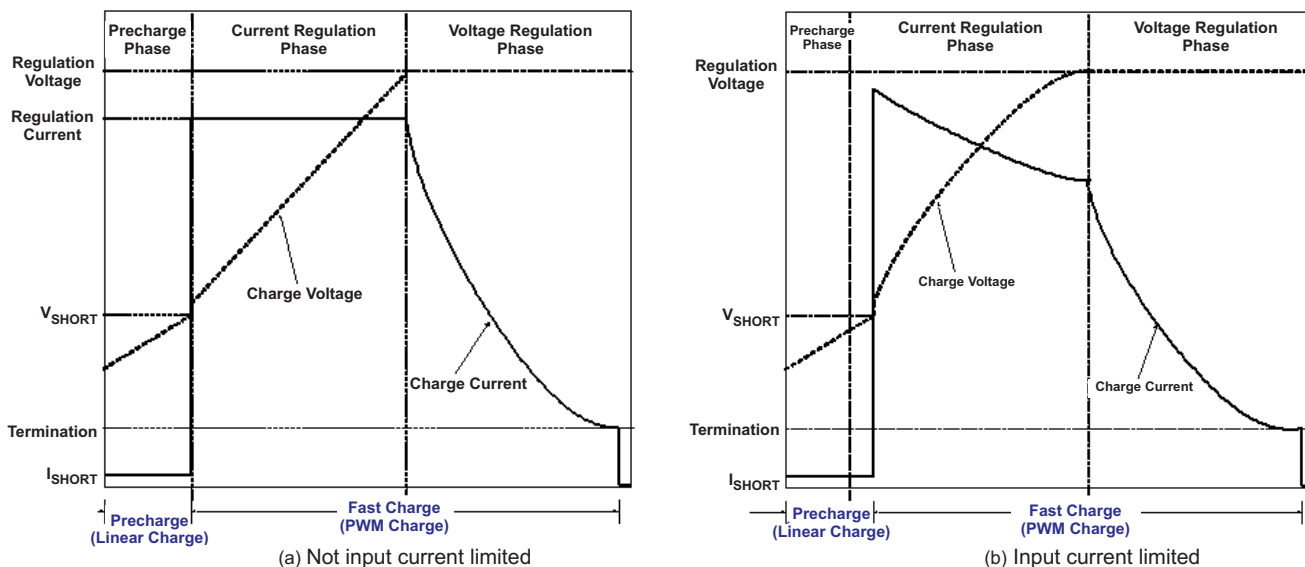

Figure 2. Typical Charging Profile of bq24273
There are 5 loops that influence the charge current; constant current loop (CC), constant voltage loop (CV), thermal regulation loop, input current sense loop and input voltage dynamic power management loop (VIN-DPM). During the charging process, all five loops are enabled and the one that is dominant takes control. The bq24273 supports a precision LiFePO₄, Li-Ion or Li-Polymer charging systems for single-cell applications. Figure 2 shows a typical charge profile.
When the battery is deeply discharged or shorted ($V_{BAT} < V_{BATSHRT}$), the bq24273 applies a 50mA current to close the pack protector switch and bring the battery voltage up to acceptable charging levels. Once the battery rises above $V_{BATSHRT}$, the charge current is regulated to the value set in the I²C register. If the die temperature does heat up, the thermal regulation circuit reduces the charge current to maintain a die temperature less than 125°C. The slew rate for fast charge current is controlled to minimize the current and voltage over-shoot during transient. The charge current is regulated to $I_{OCHARGE}$ until the battery is charged to the regulation voltage. Once the battery voltage is close to the regulation voltage, V_{BATREG} , the charge current is tapered down as shown in Figure 2. The voltage regulation feedback occurs by monitoring the battery-pack voltage between the BAT and PGND pins. The bq24273 is a fixed single-cell voltage version, with adjustable regulation voltage (3.5V to 4.44V) programmed using the I²C interface.